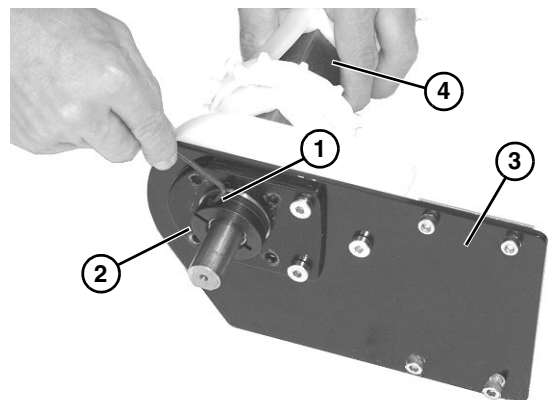

Figure 34
7. Loosen the bearing collar set screw (**Figure 34, item 1**) and remove bearing collar (**Figure 34, item 2**).
8. Remove plate (**Figure 34, item 3**) from drive spindle (**Figure 34, item 4**).